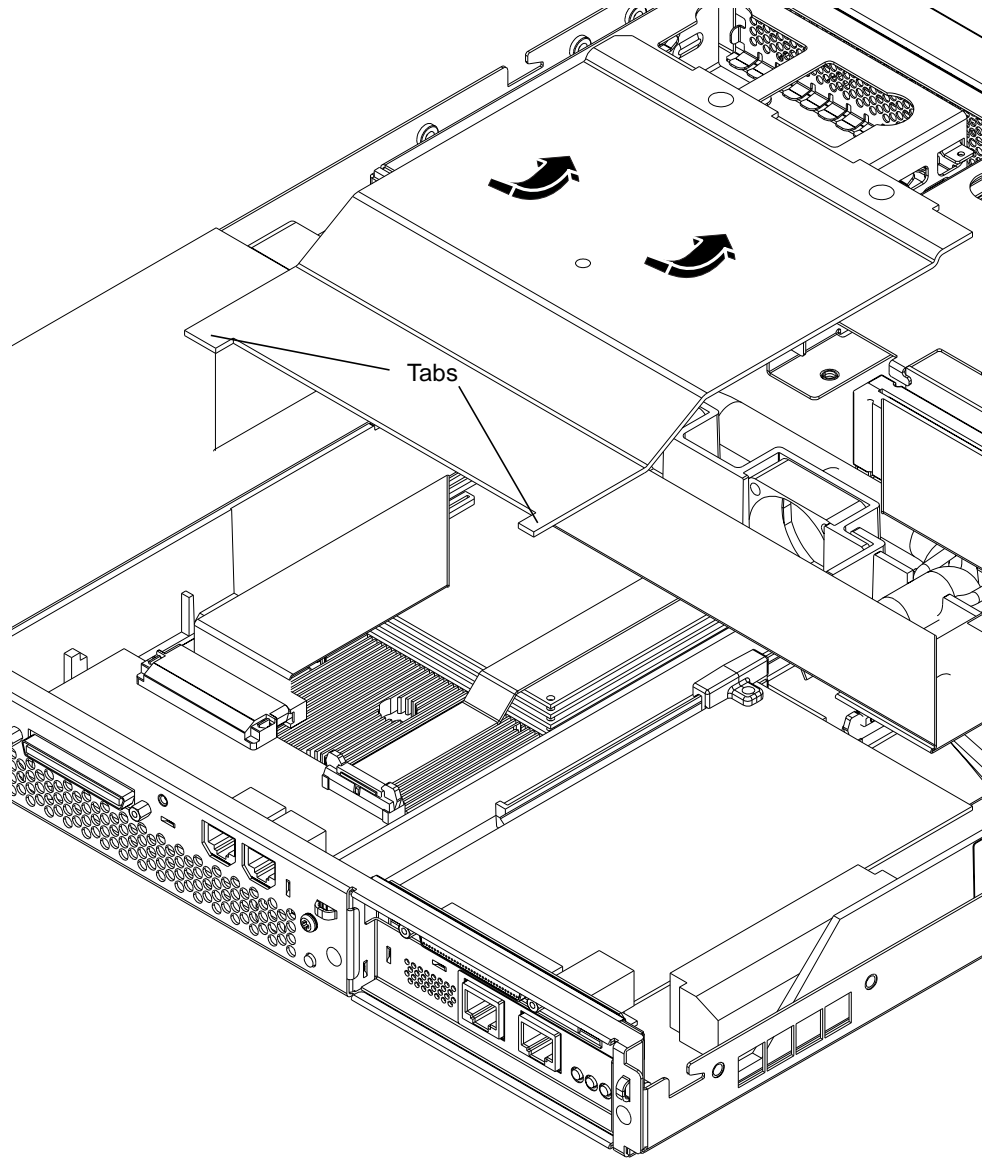

FIGURE 5 Lifting out the Processor Cover
- 6. Lift out the processor cover located in the rear center of the unit (see FIGURE 5).**